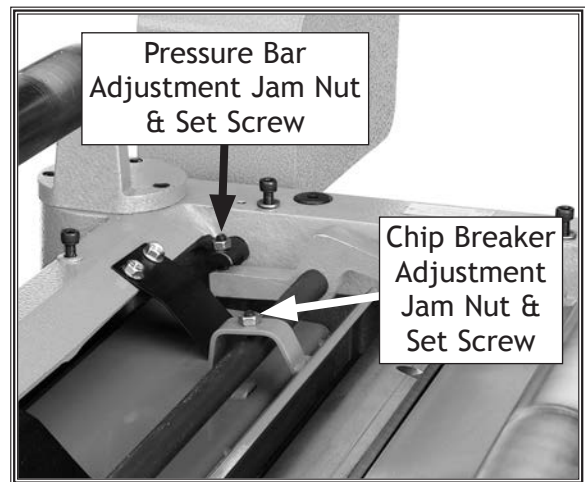

Figure 52. Location of chip breaker and pressure bar height adjustment components.
12. Using same "0" reference on Rotacator dial from Step 5, perform similar steps as described previously to adjust height of chip breaker to its recommended specification given at beginning of this subsection. (The adjustment controls are shown in Figure 52.)
13. Repeat Step 12 for pressure bar height adjustment (see Figure 52).